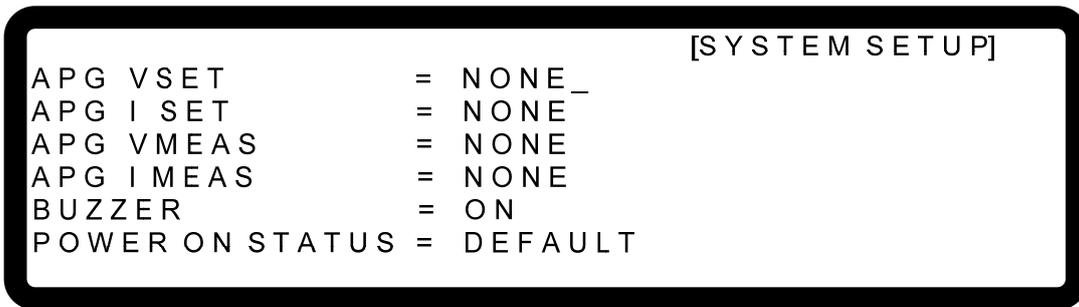

Figure 3-11
1. Use “”, “” keys to move the cursor to the column to be set as Figure 3-11 shows.